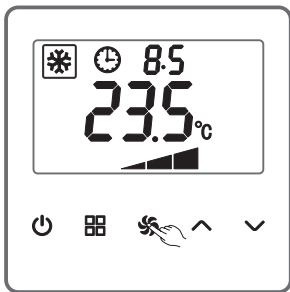

Figure 4
(1) The unit is timed to start or stop, ranging from 0.5 to 24 hours.
(2) As shown in the Figure 4, after starting the unit, to keep pressing  (SPEED) for about 5 seconds (press keeping hereinafter lasts 5 seconds)